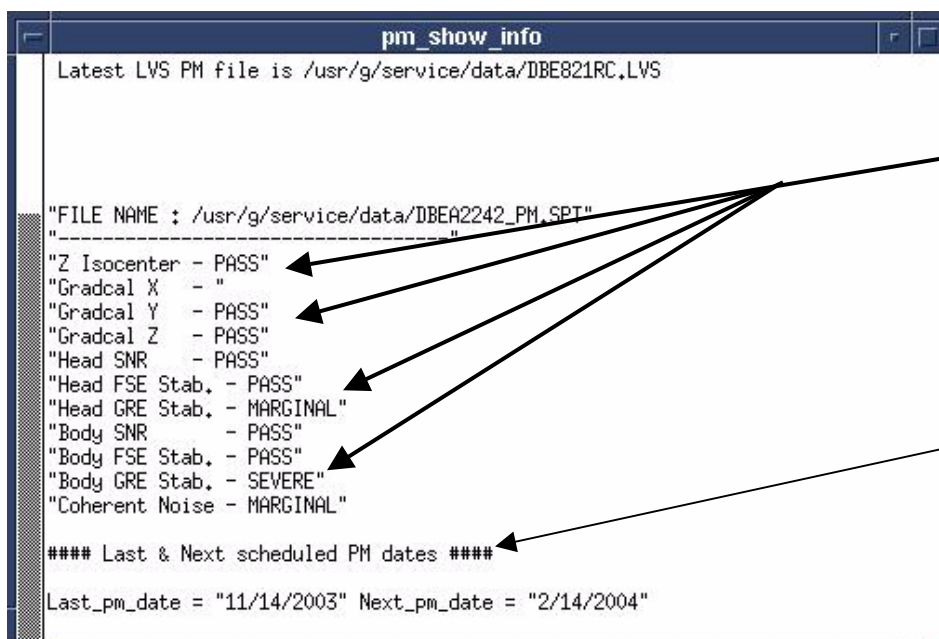

Figure 31
2. Note the test results in the PM Check window that displays with the information shown in Figure 31.
- As seen in the example shown in Figure 31, Body GRE Stab. has a SEVERE failure. This, and any other SEVERE issues, must be resolved in 21 days for the PM Assist to be considered complete. The system will notify the operator of the problem if not resolved within the 21-day period.